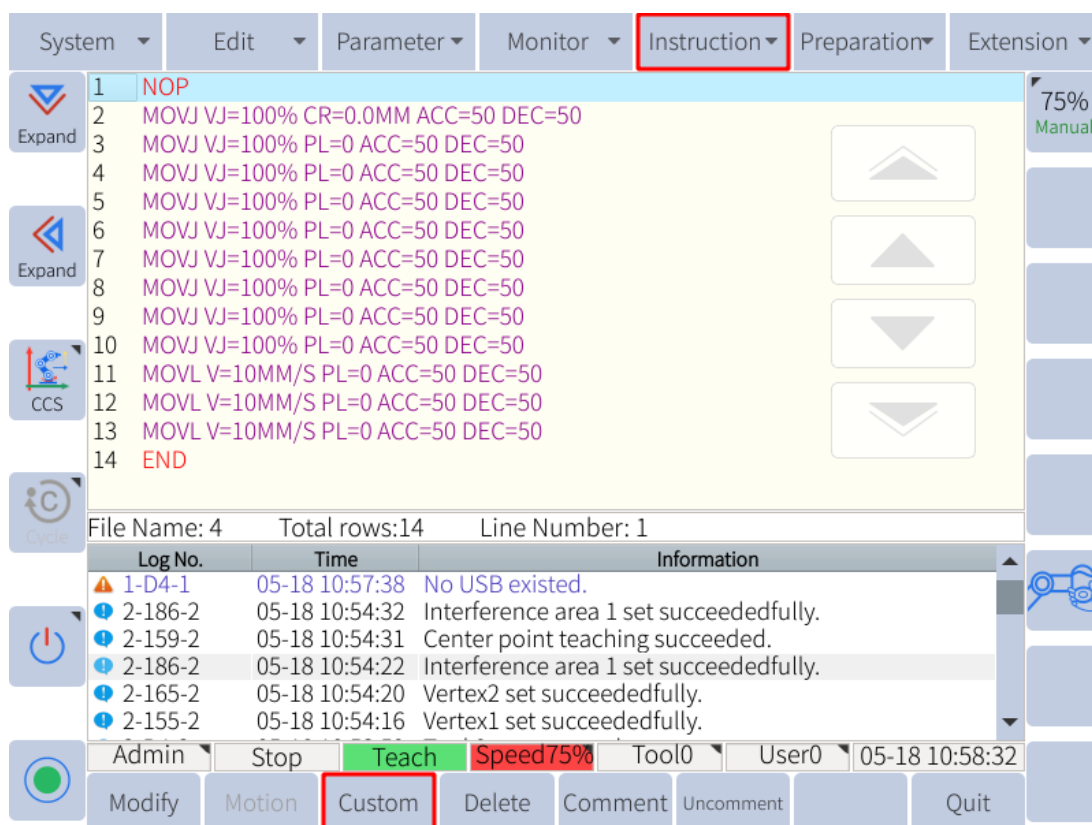

Figure 4-7 : Inserting other instructions
2. Then press “Instruction” under the main menu or “Custom” in the submenu area to select the instruction to be inserted, as shown in **Figure 4-7**